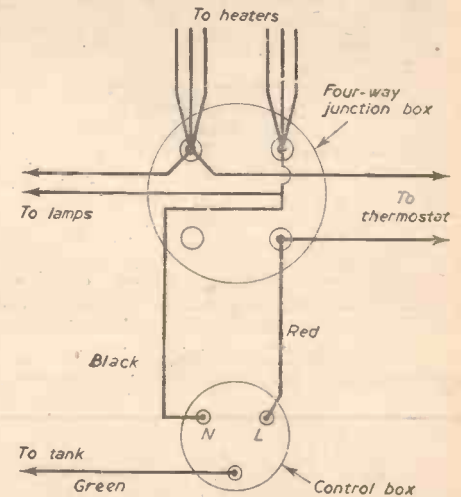

Fig. 3.—The electrical connections.
Attention is now turned to the electrical system, which is shown in Fig. 3. The three connectors are wired up, each with an individual "tail" which is long enough to reach the wall-mounted junction-box (B) placed near to the tank at the thermostat end. All three tails are then paralleled. One lead (or group of leads, to be precise) is taken to the nearest terminal in the junction box and the other group